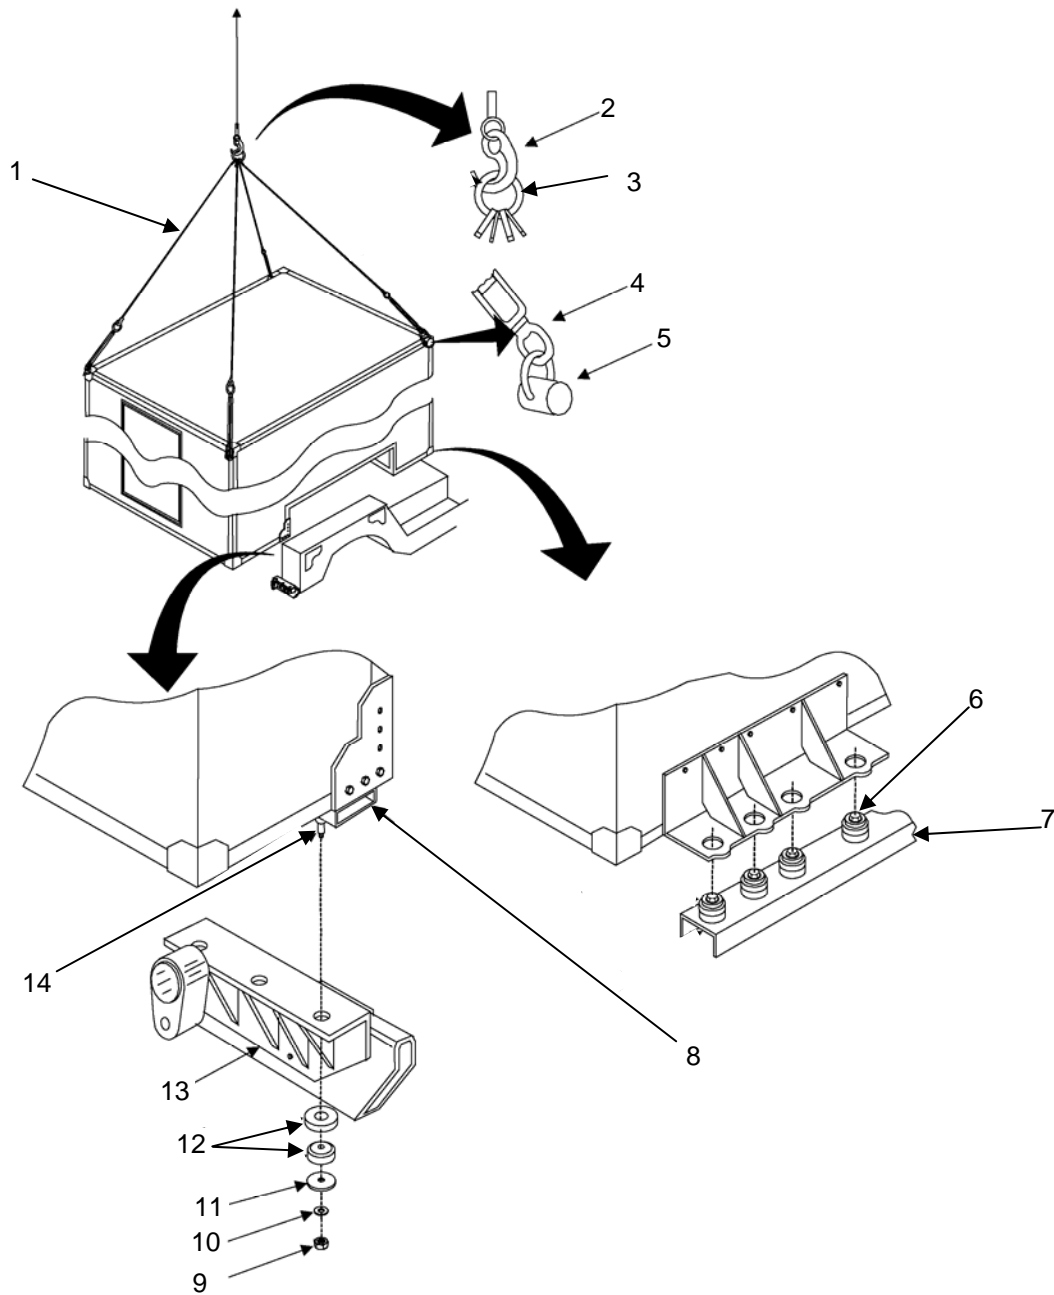

Figure 8. Lowering Shelter On HMMWV.
Steps 1 through 8 will refer to Figure 8. Lowering Shelter On HMMWV.
1. Attach certified sling assembly (figure 8, item 1) to all four lifting rings (figure 8, item 5) on shelter using the four sling hooks (figure 8, item 4) at opposite end of cables from sling assembly lifting ring (figure 8, item 3).
2. Insert lifting hook (figure 8, item 2) of the lifting device into sling assembly lifting ring (figure 8, item 3).
3. Slowly lift the shelter using the lifting device so that the rear isolator mounting screws (figure 8, item 14) are located over their respective holes in the rear mounting bracket (figure 8, item 13).
4. Slowly lower the shelter so that the front isolator mounting holes are located slightly above the isolators (figure 8, item 6) that are positioned on the vehicle beam (figure 8, item 7).
5. Due to potential variations in the HMMWV or shelter length and width, carefully align each isolator mounting screw (figure 8, item 14) with holes on rear mounting bracket (figure 8, item 13). Using the slotted holes in the respective pieces, adjust the rear mounting bracket (figure 8, item 13) for any lateral movement required and the mounting adapter (figure 8, item 8) for any longitudinal movement required.
6. Tighten all screws securing the rear mounting bracket (figure 8, item 13) to the rear bumper and rear mounting adapter (figure 8, item 8) to the bottom and sides of the shelter.
8. Slowly lower the shelter onto the HMMWV while maintaining alignment. For each isolator mounting screw (figure 8, item 14), remove the tape and slide on 2 isolators (female portion) (figure 8, item 12), isolator mount washer (figure 8, item 11), and flat washer (figure 8, item 10) then secure with self-locking nut (figure 8, item 9). Do not tighten.